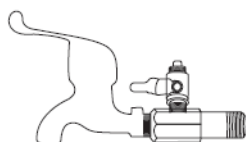

Figure 2
2. Connect tap valve and inlet three way valve. (See figure 2)